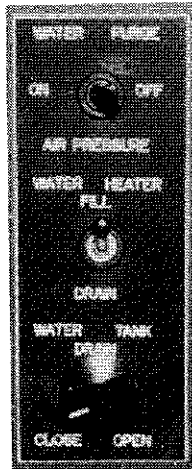
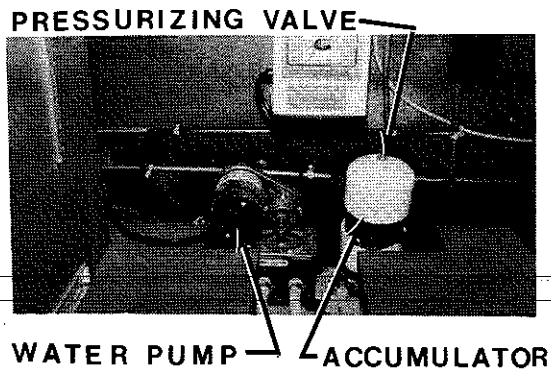

Figure 5-2. Water Purge Air Pressure, Water Heater Drain and Water Tank Drain Controls
Figure 5-3. Water Pump Location
1. **Empty the Water Tank(s)** — To drain tank(s), set the **Water Tank Drain** control (on the control panel in the bed base cabinet) to **Open**, figure 5-2. After tank(s) is completely drained turn **Water Tank Drain** control to **Closed**.
The air accumulator and water pump are located below the kitchen counter as shown in figure 5-3. The water purifier is behind location for optional ice-maker, and water tank drain valve is located under the bed.
The water pump, figure 5-3, is equipped with a factory-calibrated pressure control switch which is preset to turn the pump on when the system pressure falls below 20 psi; and turn the pump off when the pressure reaches 35 psi. If the pump has been out of service for a period of time, it is advisable to open a faucet before turning the pump on. When water flows steadily from the opened faucet, close faucet and observe that pump shuts off when system becomes pressurized. (it may also be necessary to bleed the air from the other faucets as well.) When the potable water supply tank(s) level is low, or empty, shut the pump off to prevent possible damage to the pump motor. In addition to integral motor overload protection, the pump mechanism is also protected from jamming by the presence of an inline filter (pump guard) between the pump and the supply tank.
The following procedures show the use of the various drain valves, controls and pressurized air system to remove the water from the plumbing and appliances in the fresh water supply system. Refer to figures 5-2 through 5-5 for the location of controls and valves.
4. Turn the **Water Tank Drain** control to **Open** position, and the **Water Heater** switch to **Drain** position. Both controls are located on a panel in the bed base cabinet, figure 5-2.
7. Set **Water Purge Air Pressure** switch, figure 5-2, to **On** to activate the solenoid which applies air pressure to the input water line to purge the water system. Note that it may be necessary to start the engine to build up air pressure. An air hose must be connected momentarily to the valve fitting on top of the accumulator, figure 5-3, to be sure that no water remains.